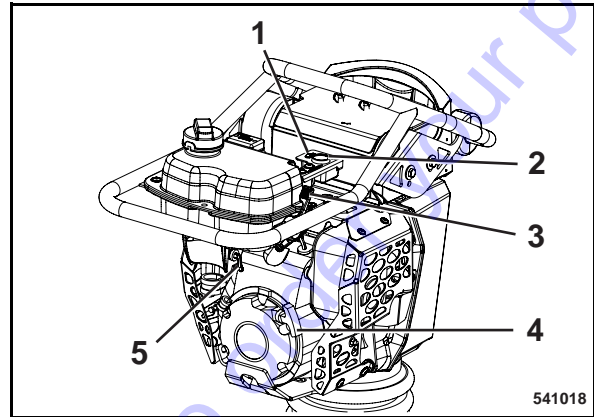

Fig. 5
If the engine oil level warning lamp (1) (Fig. 5) lights when starting the engine, you must check the oil level.